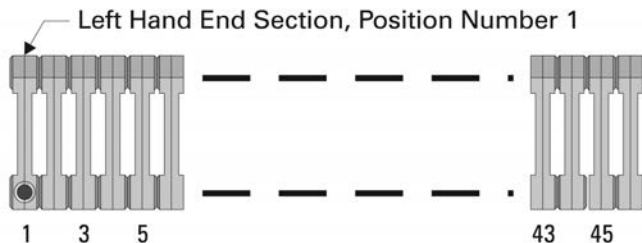

Figure 3.5: Section Positioning Numbering
8. Some of the Intermediate Sections have tappings for installing additional steam risers from the boiler. These Tapped Intermediate Sections must be installed as shown in Figure 3.5A. The placement order is left to right (Figure 3.5).